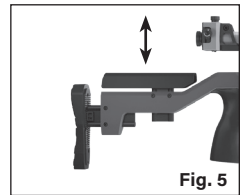

Fig. 5
- Loosen the two set screws using a $\frac{3}{32}$ Allen head wrench (Fig. 5).